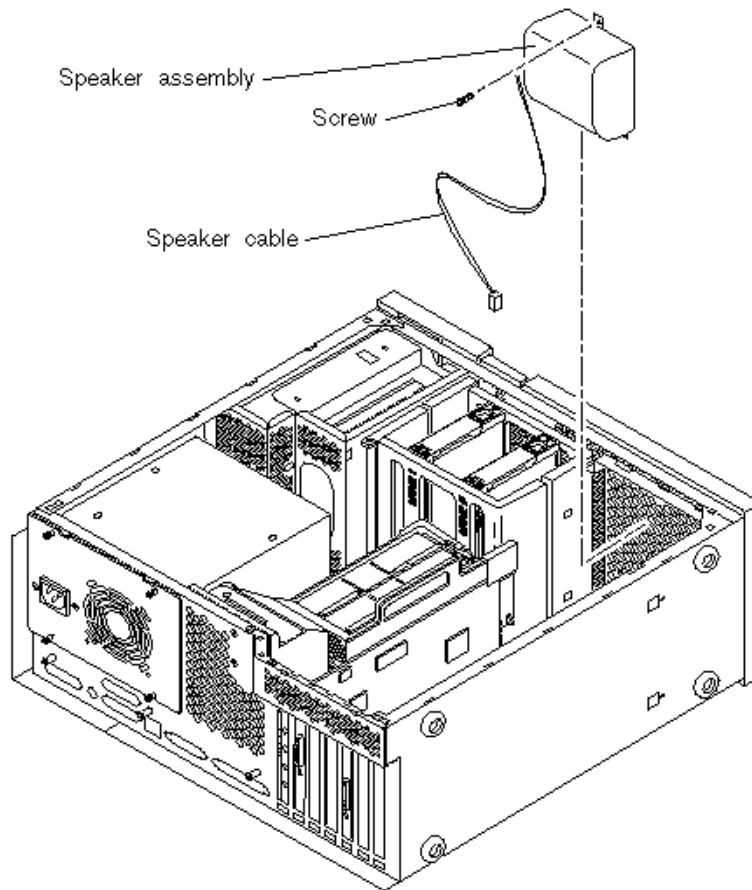

Figure 8-8 Removing and Replacing the Speaker Assembly
5. Disconnect the speaker cable from the motherboard (Figure 8-8).
1. Position the speaker assembly in the chassis (Figure 8-8).